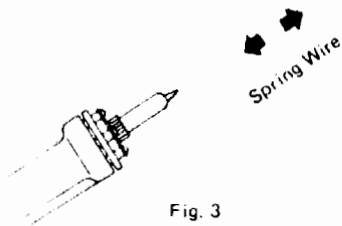

Fig. 3
2. Adjust the heating element to a higher temperature allowing the clogged solder to melt. Clean the tip by sliding the spring wire up and down until the passage is clear. (See Fig. 3)